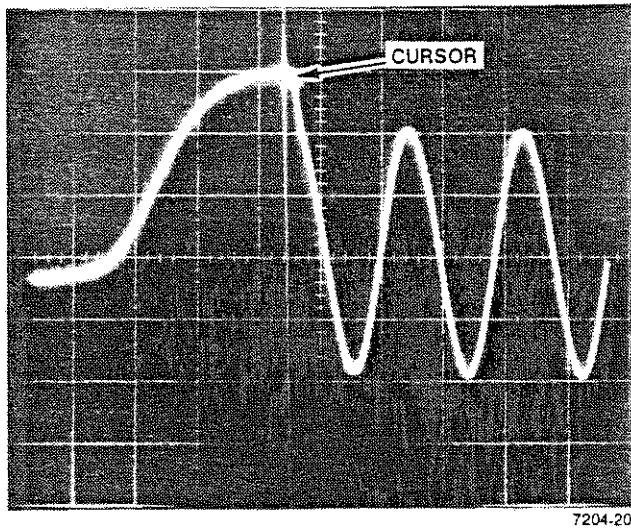

Fig. 3-51. Voltage measurement with 4X horizontal zoom.
4. Since 2048 points are being displayed and waveform detail is small and difficult to see, press the HORIZ ZOOM key. When its indicator is blinking, use the Parameter Entry Knob to set the horizontal zoom factor in the Control display to 4. When this is done, the CURSOR 1 portion of the waveform is expanded in the horizontal direction as shown in Fig. 3-51.